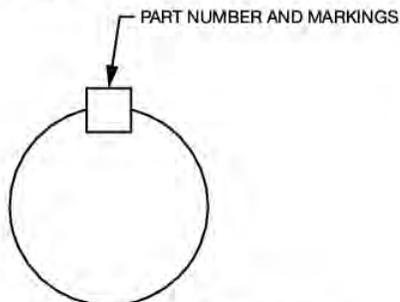

Figure 5 - Key Marking
**NOTE: In most cases the keys that are supplied with the bushing kit are NOT square keys and the orientation of the key is important. Install the key so that it fits snugly in the width of the keyseat. The keys are marked with a part number and some keys are also etched with "THIS SIDE UP"—these markings should be showing on the top of the key when it is installed in the shaft keyseat. See Figure 5 below.**